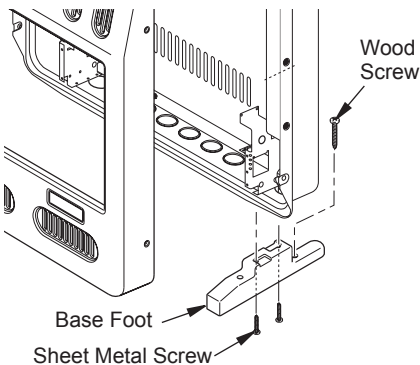

Figure 13 - Installing Base Feet
2. Align holes in base foot with mounting holes on bottom of cabinet (see Figure 13).
4. Reposition heater with base feet over holes. Secure base to floor with wood screws. See Figure 13.